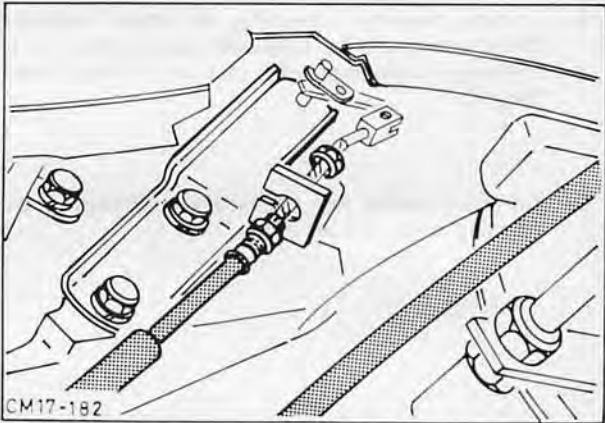

Fig. 59. Unhook outer cable from bracket (slot)
3. Remove outer cable from top bracket. Unscrew adjusting nut from threaded coupling, pull outer cable right back and unhook from bracket (slot), Fig. 59.